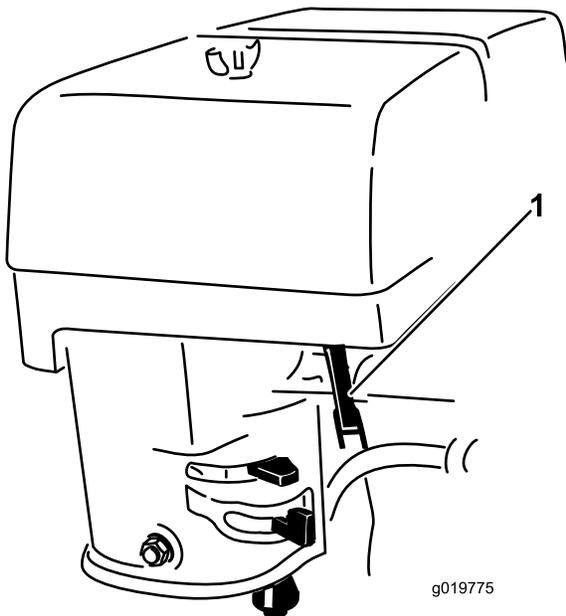

Figure 15
4. Move the throttle lever midway between slow (turtle) and fast (rabbit) positions (Figure 15).